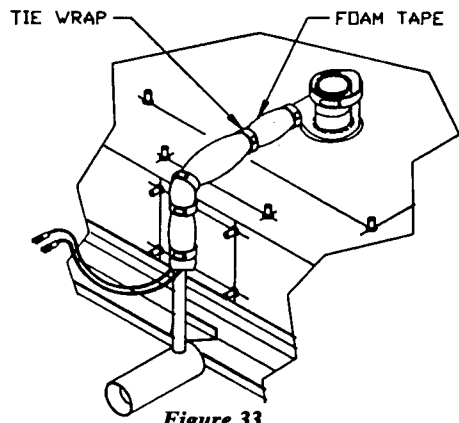

Figure 33
8. Wrap tube and suction fitting with foam insulating tape and secure with tie wraps (see Figure 33)